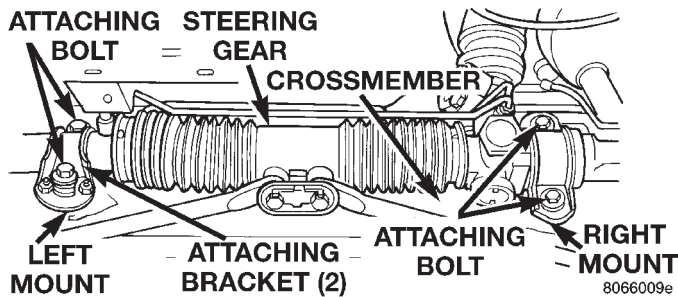

Fig. 13 Steering Gear Attachment To Crossmember
(18) Remove the 4 bolts attaching the steering gear assembly to the crossmember (Fig. 13).